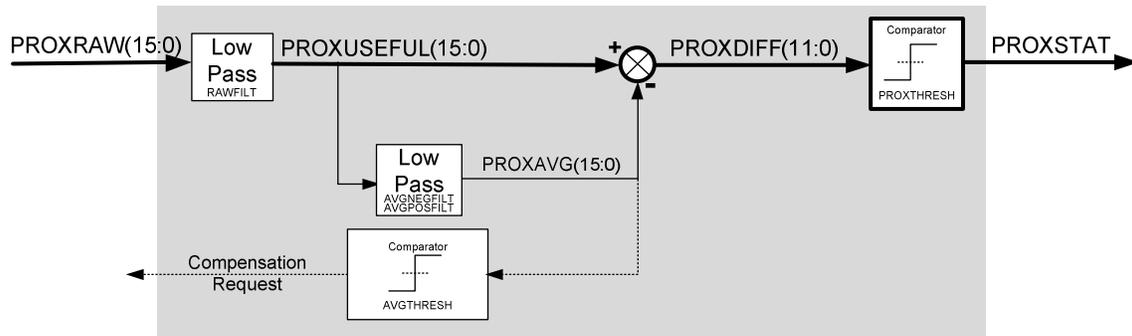

Figure 12: Digital Processing Block Diagram
The format of the I2C write is given in Figure 12. After the start condition [S], the slave address (SA) is sent, followed by an eighth bit ('0') indicating a Write. The SX9300 then Acknowledges [A] that it is being addressed, and the Master sends an 8 bit Data Byte consisting of the SX9300 Register Address (RA). The Slave Acknowledges [A] and the master sends the appropriate 8 bit Data Byte (WD0). Again the Slave Acknowledges [A]. In case the master needs to write more data, a succeeding 8 bit Data Byte will follow (WD1), acknowledged by the slave [A]. This sequence will be repeated until the master terminates the transfer with the Stop condition [P].